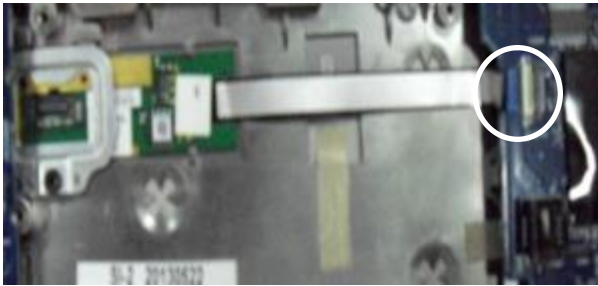

Fig.2
2. Open the lid of fingerprint CNTR, then pull up the FFC. (Fig.2)